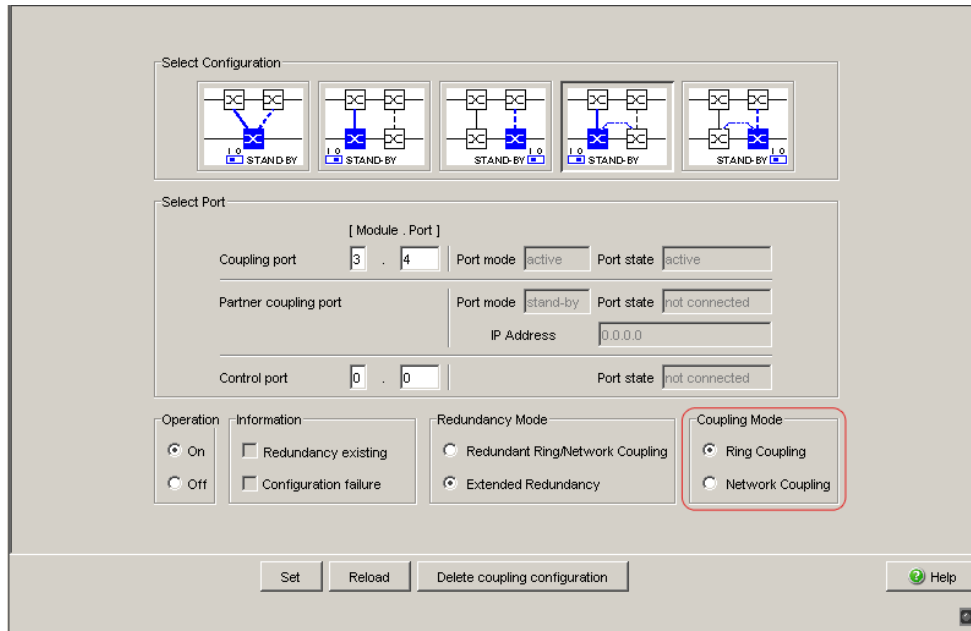

Figure 39: Selecting the coupling mode
- In the “Coupling Mode” frame, select (see fig. 39)